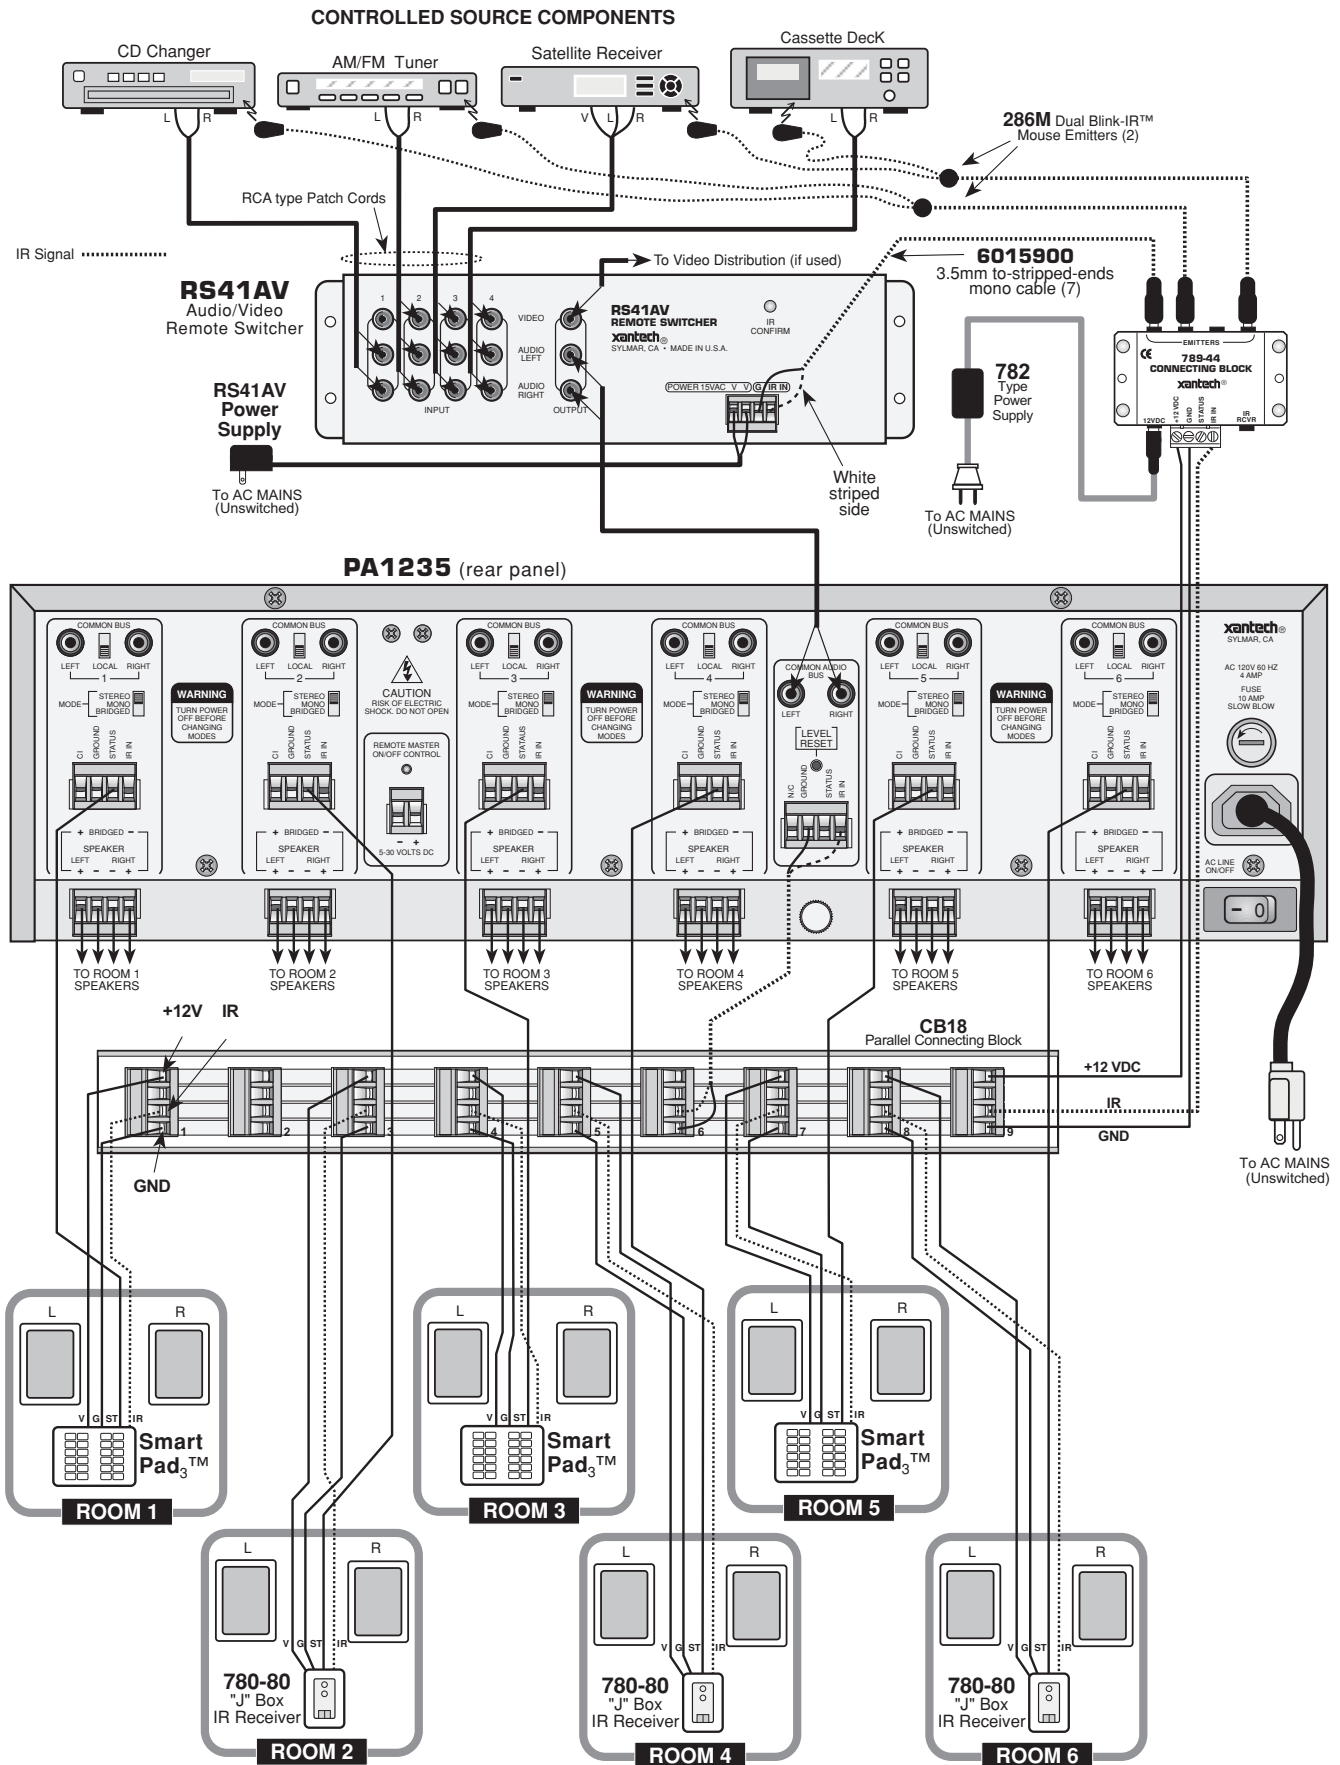
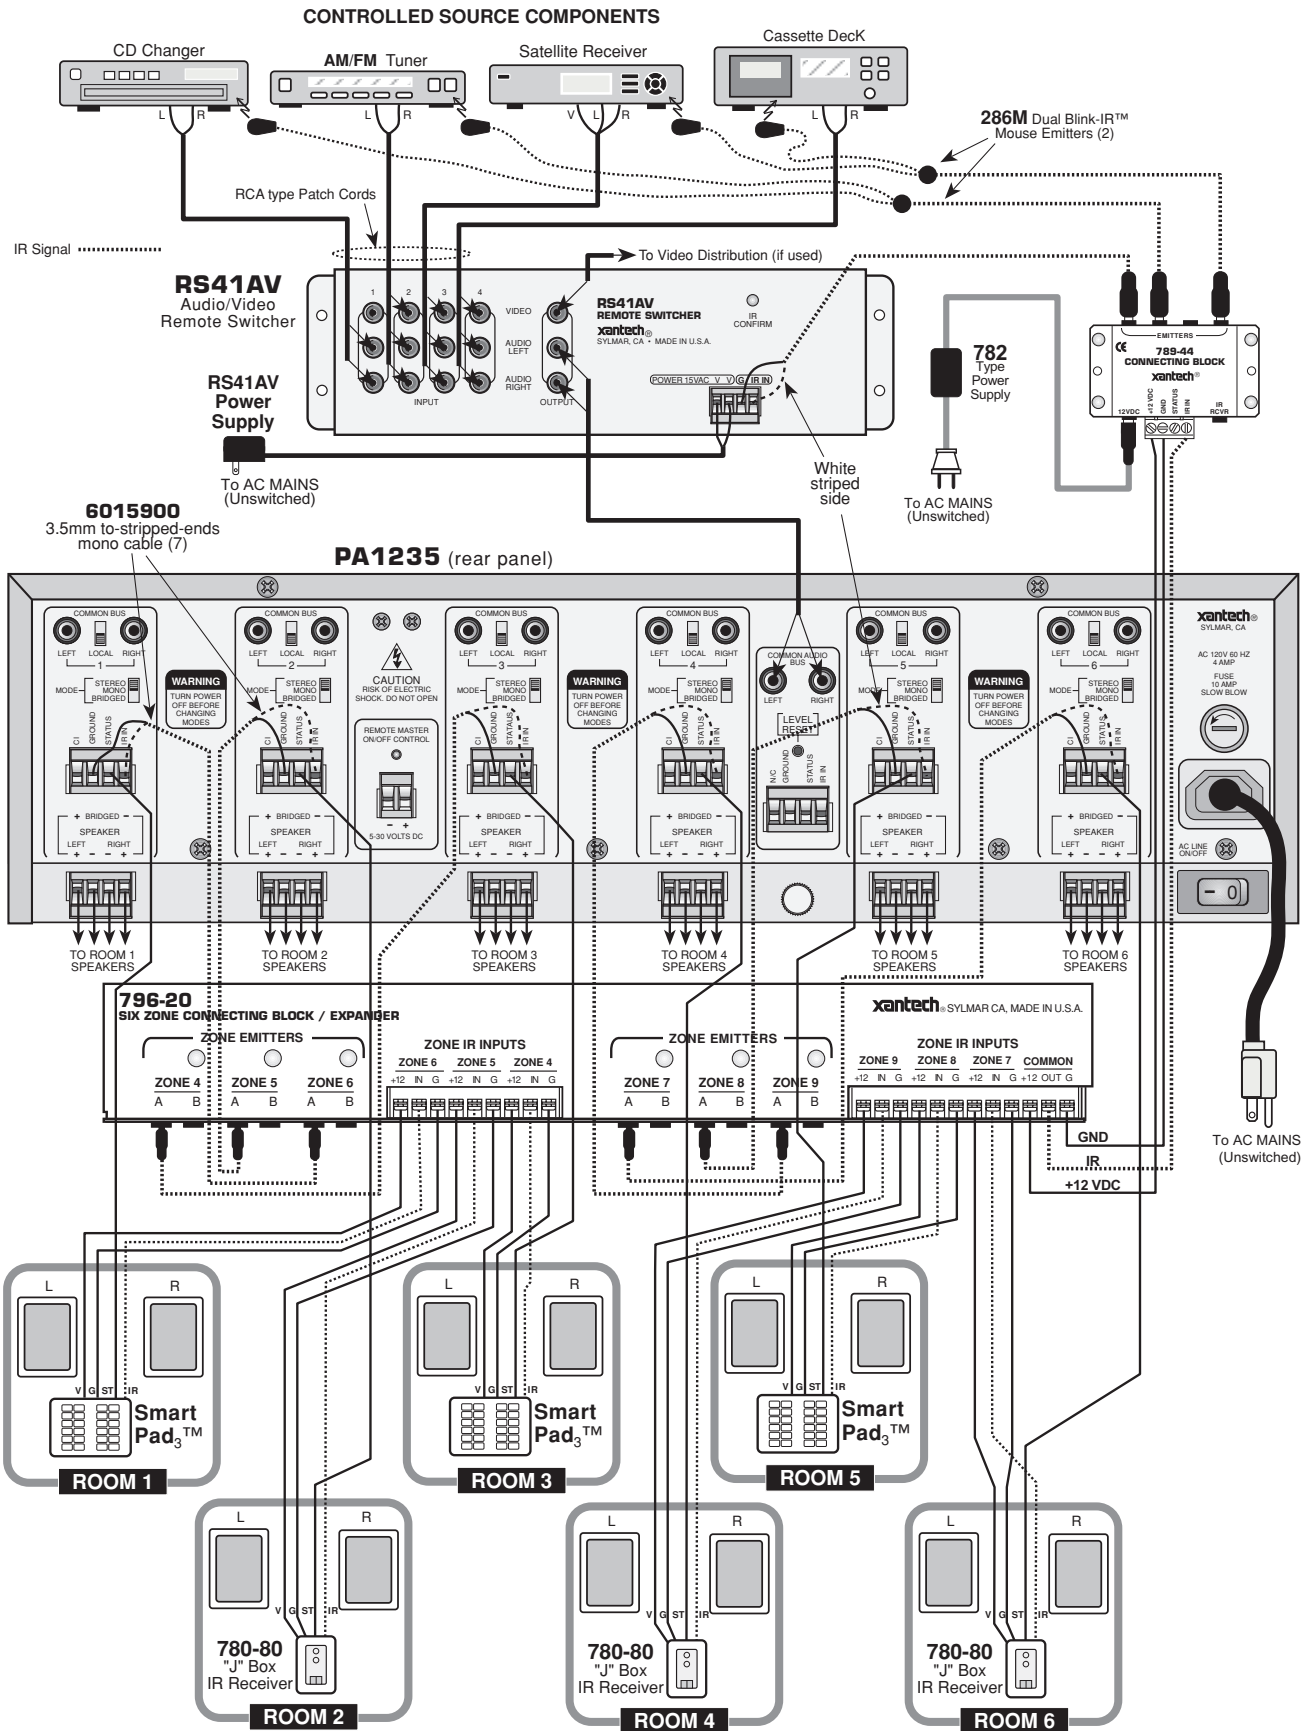

Fig. 8 Basic PA1235/RS41 System - Requires Room Dedicated Remotes
Fig. 10 Basic PA1235/RS41/796-20 System - Uses Non-Dedicated Room Remotes
A typical system using a low cost approach is shown in **Fig. 8**. It does require that a dedicated remote be used in each room that has an IR receiver - that is, remote commands for Volume, etc., are specific for each room.
4. The Common IR is taken from the #6 connector on the CB18 (connection to any of the other connectors would also work) & run to the Common IR IN on the PA1235 with a 2-conductor lead. Refer to **Fig. 8**.
If you wish to carry remotes that have the same codes from room-to-room, use a Dedicated IR System as shown in **Fig. 10**.
A typical system of this type is shown in **Fig. 10**, where each remote room has a Dedicated IR path going to the PA1235 amplifier pair that controls it. The IR bus is not connected in common as it is in **Fig. 8**. It eliminates the need for dedicated remotes, **allowing you to carry the same remote(s) from room-to-room** - that is, remote commands for Volume, Mute, etc., will work in any room from the same remote.
This system is similar in many respects to the previous system (Fig. 8), but differs as follows:
Fig. 10 illustrates how a PA1235 can be switched ON and OFF via the switched AC outlet on the rear of a preamplifier or other control center.